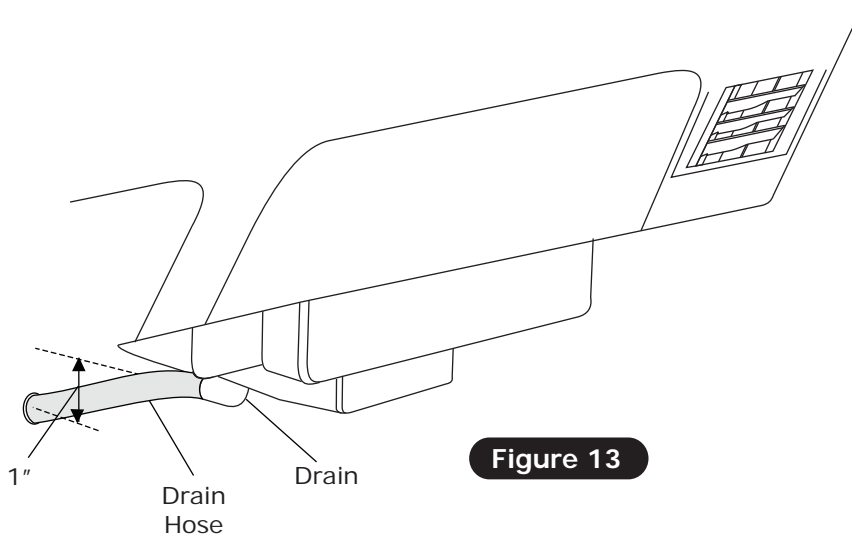

Figure 13
2. In line with the drain, lightly make a mark on the firewall. Measure one inch down and drill a 5/8" hole through the firewall (See Figure 13, below).
3. Install drain hose to bottom of evaporator unit and route through firewall (See Figure 13, below).